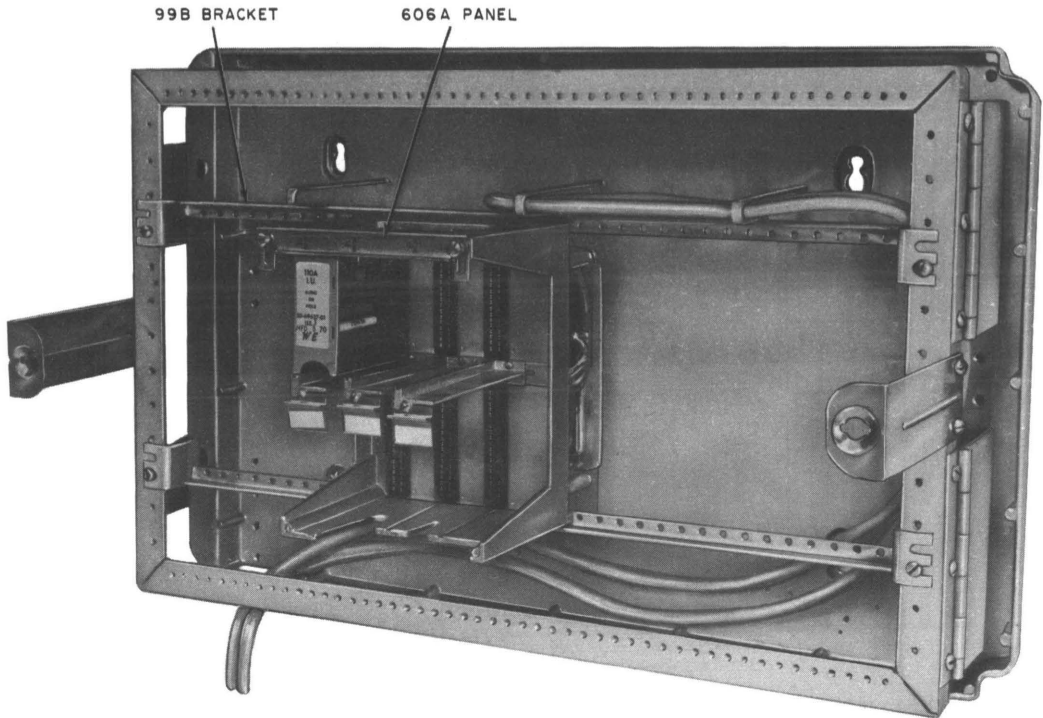

Fig. 5—606A Panel Mounted in 16C Apparatus Mounting
**3.07** Install the 606A panel on a standard 23-inch relay rack or in a 16C apparatus mounting using a 99B mounting bracket (Fig. 5). The center mounting bar should be removed from the 16C apparatus mounting. Connect a separate ground to rack or mounting.